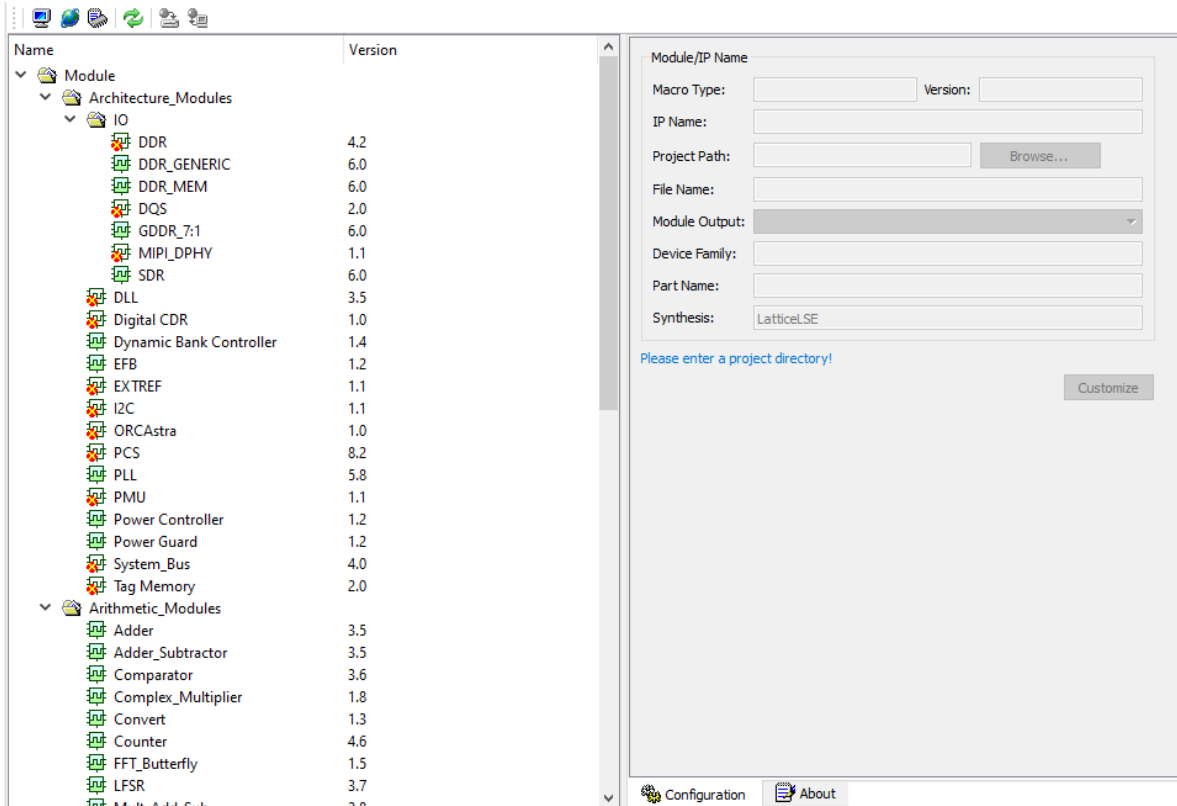

Figure 3.5. Diamond IPexpress GUI
2. On the IPexpress tab as shown in Figure 3.5, you can select between an installed IP core on a local folder or to download and install additional IP core from the IP Server.